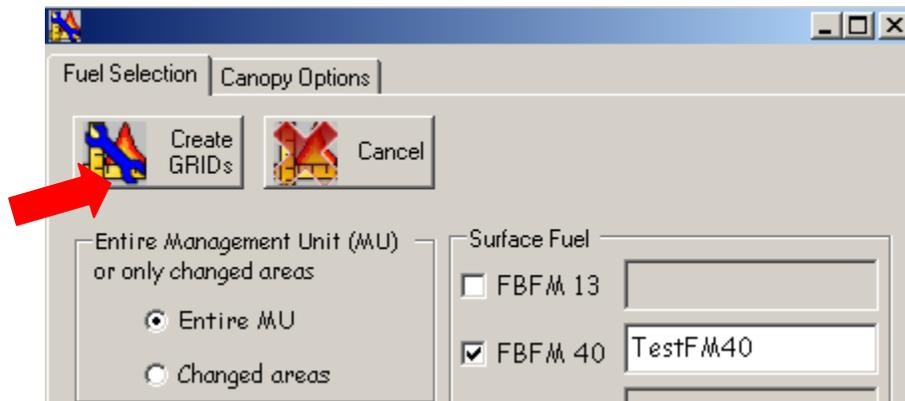

Figure 6-22. Click **Create GRIDs** when finished.
- After you have finished making your selections click **Create GRIDs** at the top left corner of the screen (fig. 6-22).